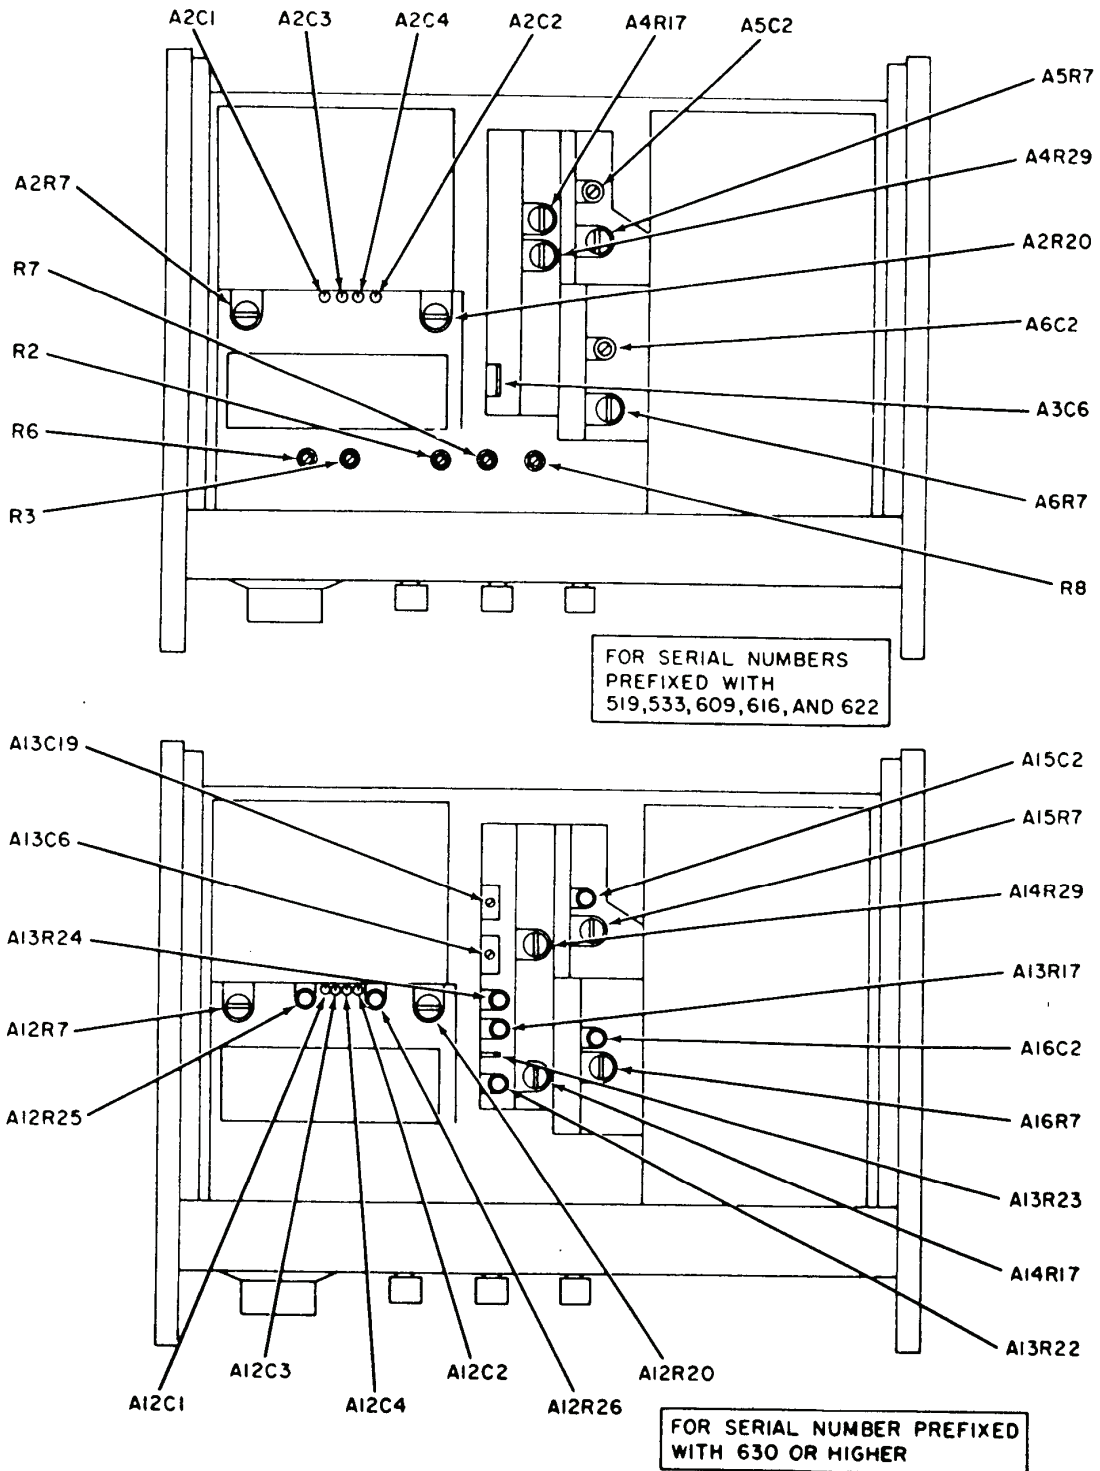

Figure 2. Model 3300A - top view.
- (1) Turn A13R24 (fig. 2) fully ccw.
- (2) Set **RANGE** switch to **X.1**.
- (3) Measure T_1 and record value.
- (4) Measure T_2 while adjusting A13R22 (fig. 2) until T_2 equals TI (R).
- (5) Set **RANGE** switch to **X100**.
- (6) Measure T_1 and T_2 and record both values.
- (7) Adjust A13R23 (fig. 2) until T_2 is midway between both values recorded in (6) above (R).
- (8) Measure T_1 and T_2 and record both values.
- (9) Adjust A13R24 (fig. 2) until T_2 is midway between both values recorded in (8) above (R).
- (10) Repeat (2) through (9) above for best in-tolerance condition.
- (11) Set **RANGE** switch to **X.1**.
- (12) Adjust R8 (fig. 2) until T_2 equals T_1 (R).
- (13) Set **RANGE** switch to **X100**.
- (14) Adjust R7 (fig. 2) until T_2 equals T_1 (R).
- (15) Repeat (11) through (14) above for best in-tolerance condition.
- (1) Set **FREQUENCY** dial to **1** and **RANGE** switch to **X100**.
- (2) Loosen **FREQUENCY** dial from shaft.
- (3) Rotate shaft until frequency counter indicates 10 ms (R).
- (4) Set **FREQUENCY** dial to indicate 1 and tighten **FREQUENCY** dial to shaft.
- (5) Set **FREQUENCY** dial to **10**.
- (6) Adjust A13R17 or R6 (fig. 2) until frequency counter indicates 1 ms (R).
- (7) Repeat (1) through (6) above for best in-tolerance condition.
- (8) Set **RANGE** switch to **X1K** and **FREQUENCY** dial to **10**.
- (9) Adjust A13C19 (fig. 2) until frequency counter indicates 10 kHz (R).
(10) Set **RANGE** switch to **X10K**.
(11) Adjust A13C6 or A3C6 (fig. 2) until frequency counter indicates 100,000 Hz (R).
(1) Connect audio analyzer to **CHANNEL A OUTPUT**.
(2) Set **RANGE** switch to **X1K** and **FREQUENCY** dial to **1**.
(3) Measure distortion at 1 kHz. If audio analyzer does not indicate less than 1 percent distortion, perform **b** below.
(4) Set **FREQUENCY** dial to **10**. Measure distortion at 10 kHz. If audio analyzer does not indicate less than 1 percent distortion, perform (2) above and **b** below.